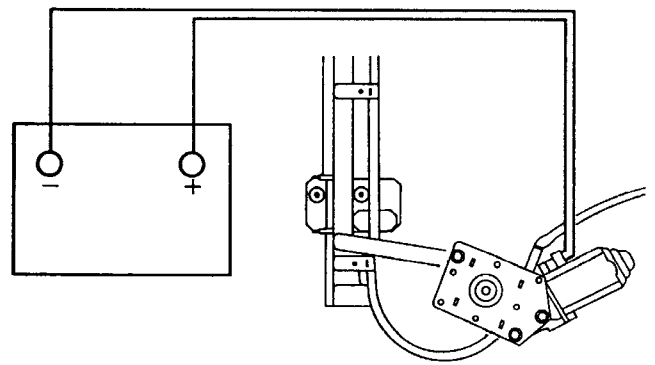

Figure 2
3. Connect the positive and negative leads from a slave battery to the lift motor plug, see figure 2. In this condition the window lift motor should operate.